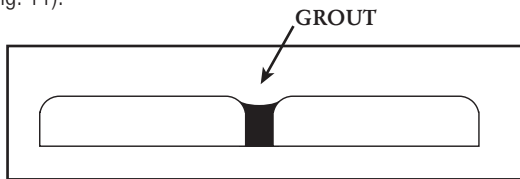

Fig. 11 - The finished grout line width is wider than the space between the tiles.
- The desired grout line width should be determined prior to starting the flooring installation. It is important to understand that the finished grout line will be $1/16''$ to $3/32''$ wider than the space between the tiles, since the grout will extend onto part of the radius along the top edge of the tile (Fig. 11).